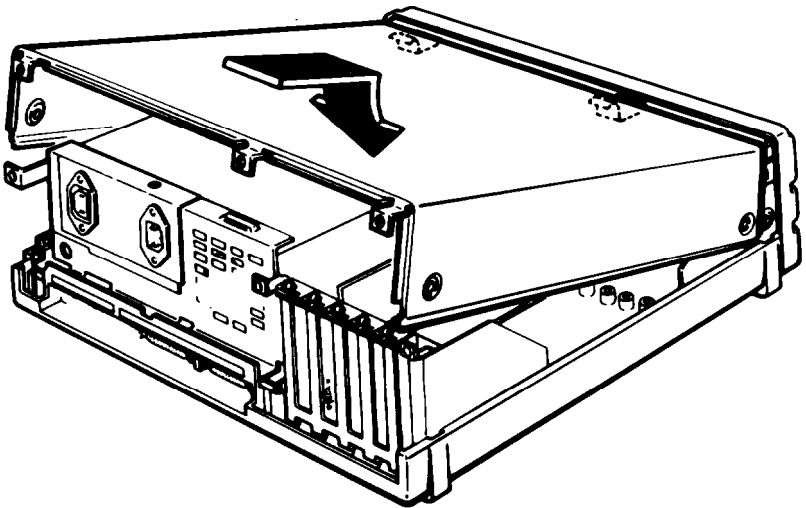

Figure 3-6. Replacing the cover
2. Lower the cover onto the bottom half of the case, as shown in Figure 3-6, making sure that the bottom edges fit inside the case. At the same time, slide the front edge beneath the top edge of the front panel. Finally, lower the back of the cover so that it is in position.